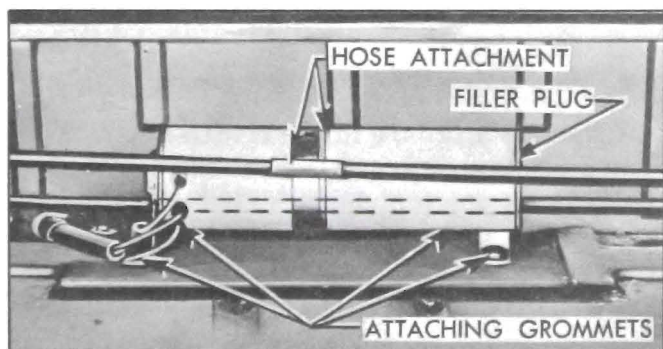

Figure 13-116—Motor and Pump Assembly Attachment
8. To facilitate removal apply a rubber lubricant to pump attaching grommets; then carefully disengage grommets from floor pan. See figure 13-116.